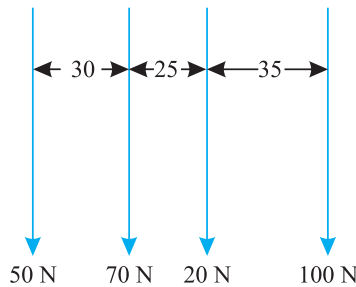

Fig. 4.7.
**Example 4.5.** Find graphically the resultant of the forces shown in Fig. 4.7. The distances between the forces are in mm.